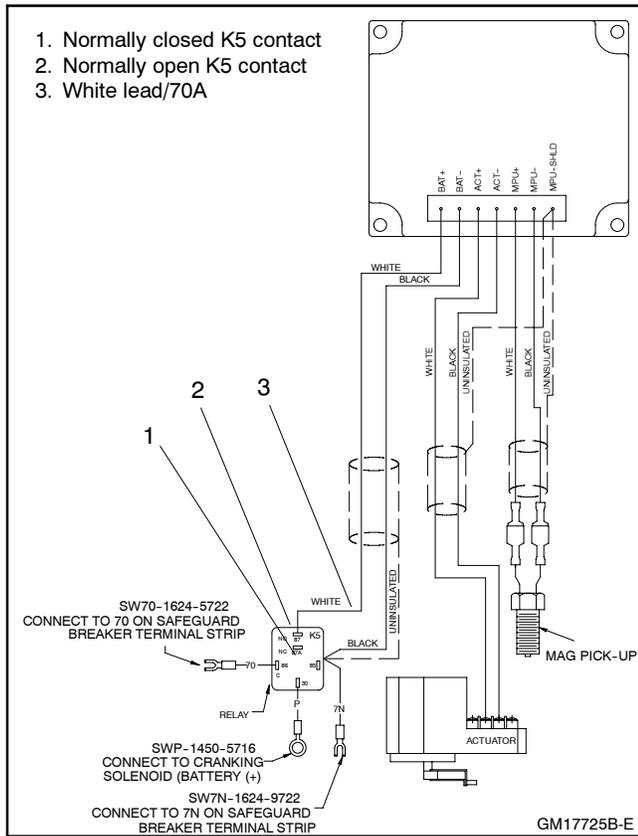

Figure 7 Energizing Governor Controller
2.3.4 Energize the governor controller by moving the white lead/70A from the normally open K5 contact to the normally closed K5 contact. See Figure 7. Connecting to the normally closed contact will energize the governor controller without starting/ running the generator set.
- 2.5.2 Move the white lead/70A from the normally closed K5 contact back to the normally open K5 contact. See Figure 7.